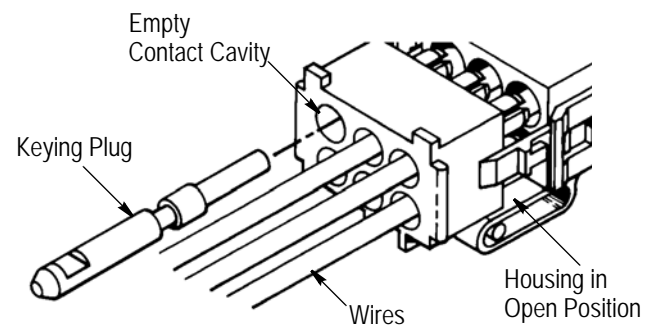

Figure 4
2. With the housing in the open position (refer to Figure 2), insert the keying plug into the wire end of the housing. See Figure 4.